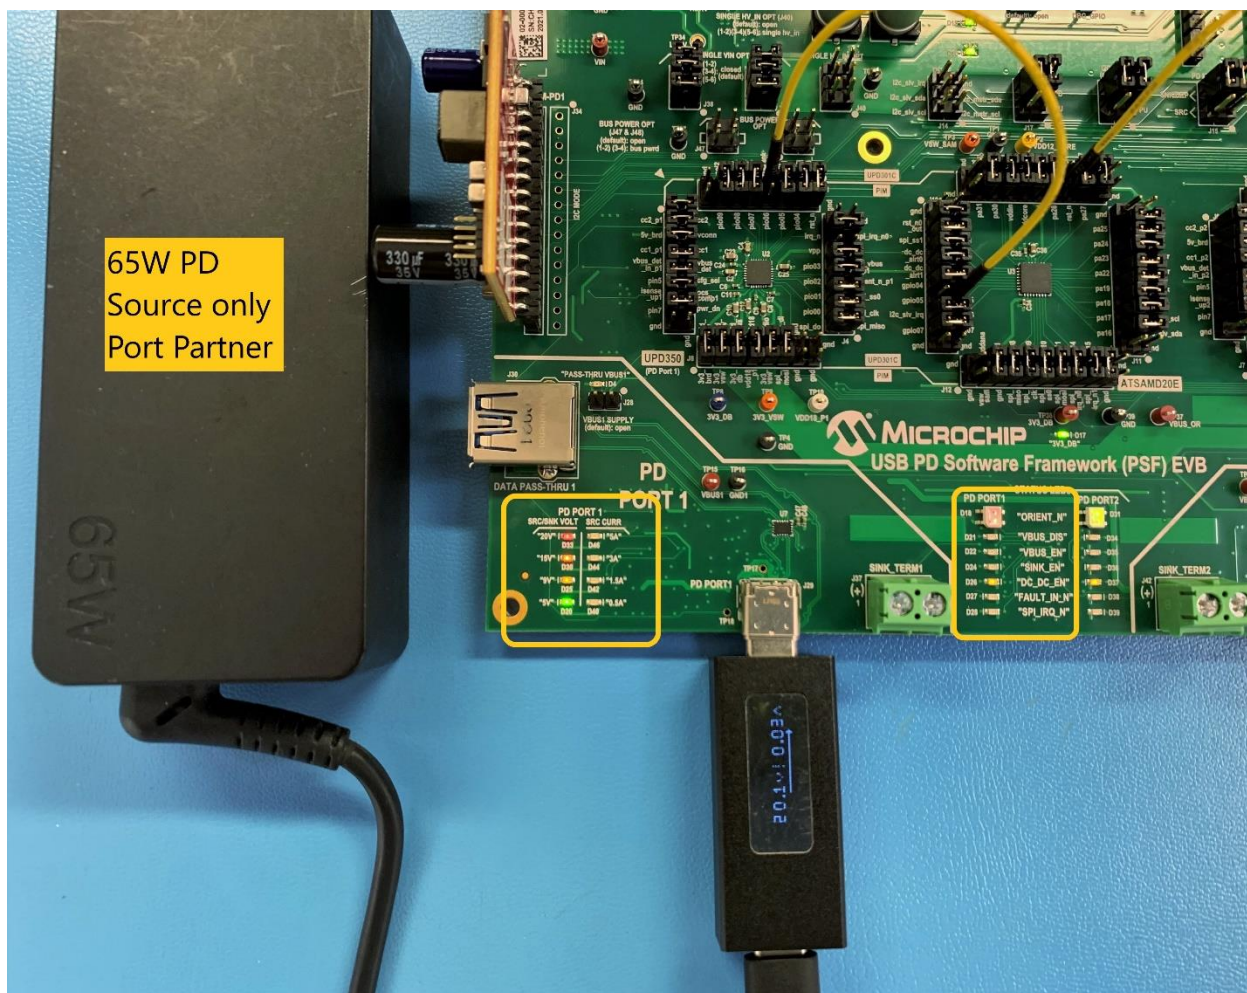

Figure 7.3 PDO Status LEDs when attached as Sink
- Once an explicit power contract negotiation is in place, the PSF gets enough power for charging. PDO status LEDs will turn ON indicating the negotiated voltage as shown in Figure 7.3